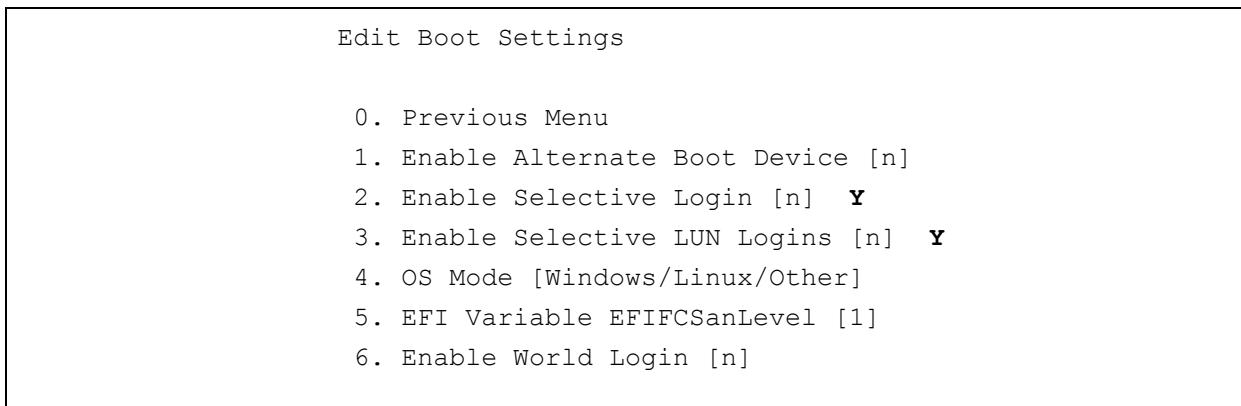

Figure 7-10. Edit Boot Settings Menu
- n. Enable both Selective Login and Selective LUN Logins (Figure 7-10). Enabling Selective Logins restricts the discovery of targets [WWPNs] to what is specified in the database as a boot device. Enabling Selective LUN Logins restricts the discovery of LUNs to what is specified in the database as a boot device LUN number.